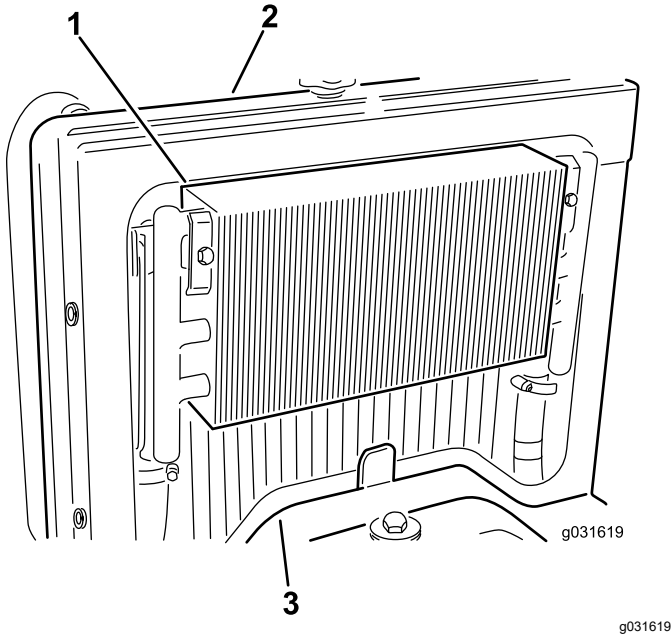

Figure 58
3. Remove the access panel (Figure 58).